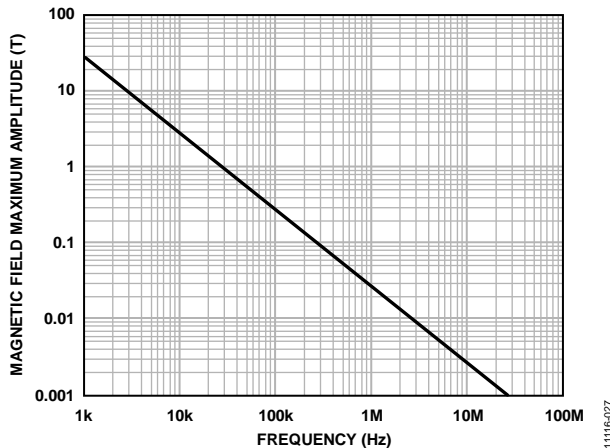

Figure 105. Maximum Allowable External Magnetic Field
Given the geometry of the receiving coil in the ADE7933/ADE7932 and an imposed requirement that the induced voltage (V_{THR}) be, at most, 50% of the 0.5 V margin at the decoder, a maximum allowable magnetic field (B) is calculated, as shown in Figure 105 and Equation 54.